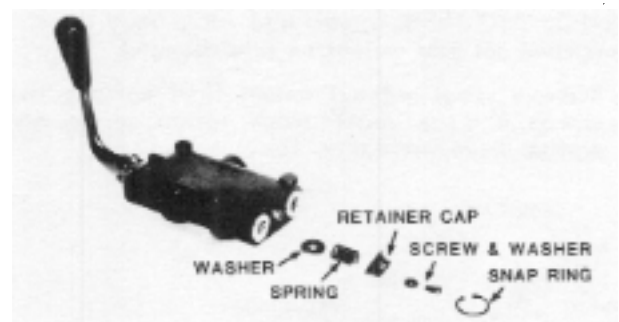

FIG. 13. Remove Retainer Cap and Return Spring
1. Remove the snap ring from the spool retainer cap (Fig. 13).